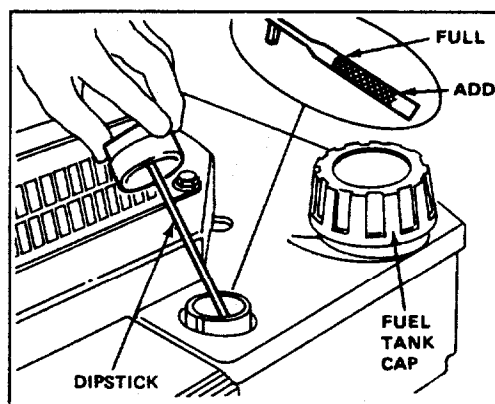

Figure 5
Before each use, assure oil level is between ADD and FULL marks on dipstick (Fig. 5). Add oil if level is low.
3. Wipe dipstick and insert it into filler neck. Rotate cap clockwise 1/4 turn. Then remove dipstick and check level of oil (Fig. 5). If level is low, add only enough oil to raise level to FULL mark on dipstick. **DO NOT FILL ABOVE FULL MARK BECAUSE ENGINE COULD BE DAMAGED WHEN STARTED. POUR SLOWLY.**
1. Clean around fuel tank cap and remove cap from tank (Fig. 5). Using unleaded gasoline, fill fuel tank to within 1/4" to 1/2" (6 to 13 mm) from top of tank.
1. **CHECK OIL LEVEL**—Maintain oil level between ADD and FULL marks as shown on dipstick (Fig. 5).